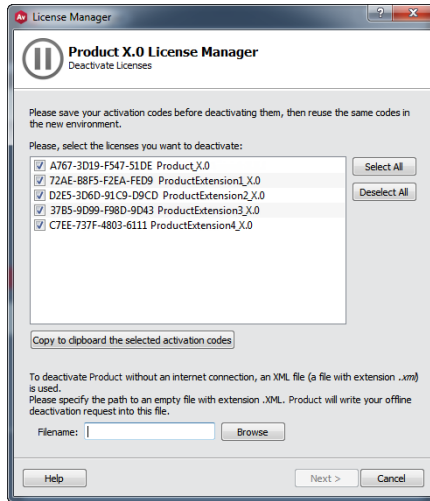

Figure 1.16: License Manager - Deactivation Dialog Offline
- Click on the *Deactivate Extensions or Editions* button. A dialog will open (see Figure 1.16), allowing you to select the licenses you want to deactivate.
- A dialog will open (see Figure 1.16): select the licenses you want to deactivate and the path to the XML file that will contain your offline deactivation request.